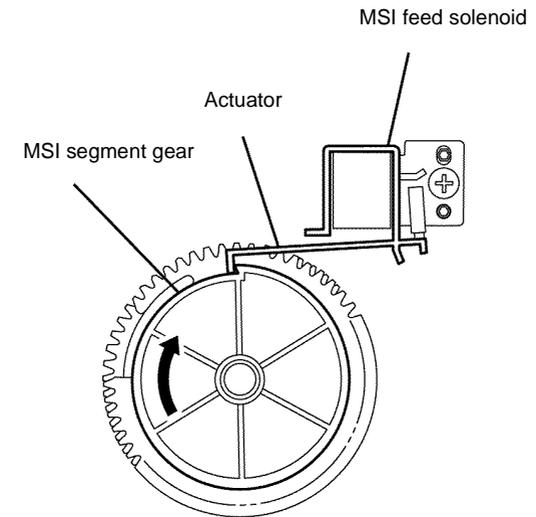

Figure 3 MSI feed solenoid installation
2. When installing the MSI feed solenoid, ensure that the actuator is latched to the MSI segment gear 1, Figure 3.